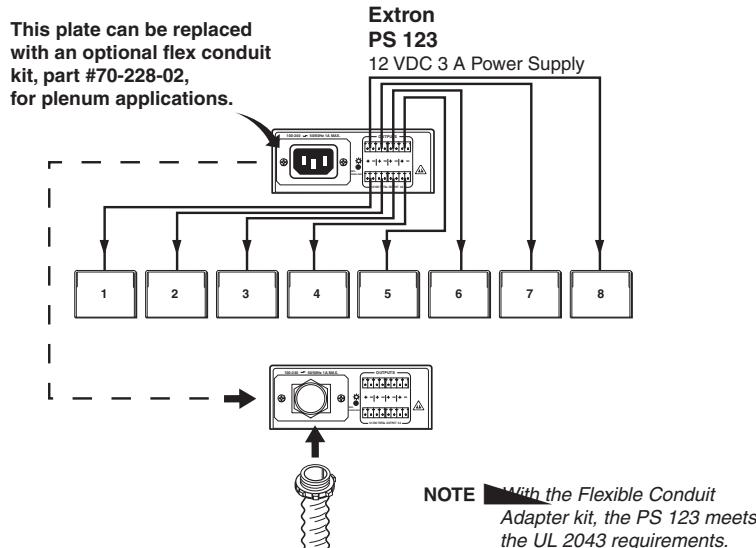

Figure 2 — Using the conduit option for the PS 123
- ② IEC connector/power supply** — Plug the external IEC cord into this connector and a 100–240 VDC source.
- OR- ③ Optional conduit EMT adapter plate** — The IEC connector and EMT plate can be replaced by this half-inch conduit EMT adapter plate, as shown in figure 2. See "Input power — using the Flexible Conduit Adapter Kit," on the next page.